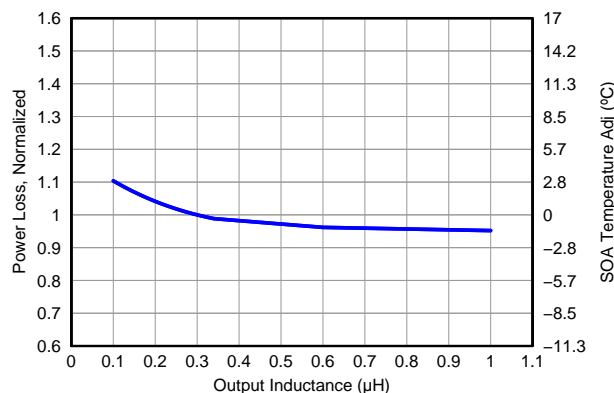

Figure 15. Normalized Power Loss vs Output Inductance
- Normalized Power Loss for output inductor  $\approx 1.04$  (Figure 15)
- SOA adjustment for output inductor  $\approx 1.3^{\circ}C$  (Figure 15)